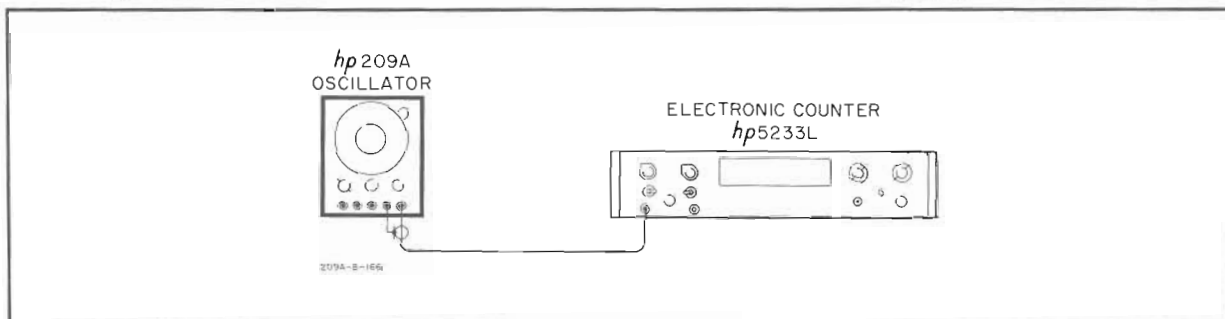

Figure 5-1. Dial Accuracy Check
- Connect the Model 209A and the Frequency Counter as shown in Figure 5-1. Set the counter to measure frequency and check the Model 209A at the frequencies listed in Table 5-2 for the tolerances indicated.